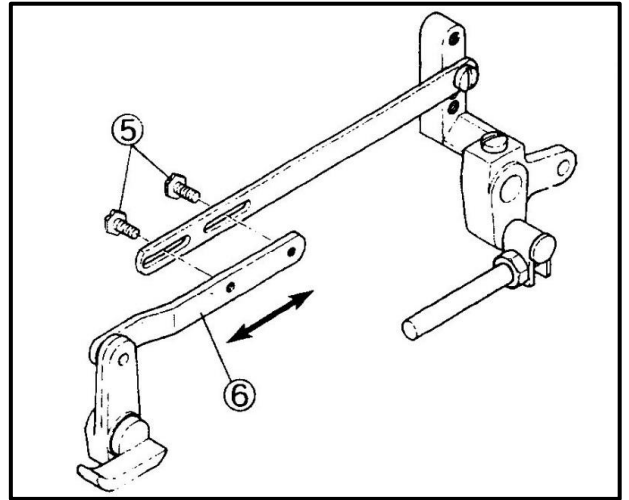

Fig.6
- (2) Loosen the screw ⑤ of the presser foot lifter lever link (long). (Fig. 6)
- (3) Move the presser foot lifter lever link (short) ⑥ right or left to adjust the clearance.